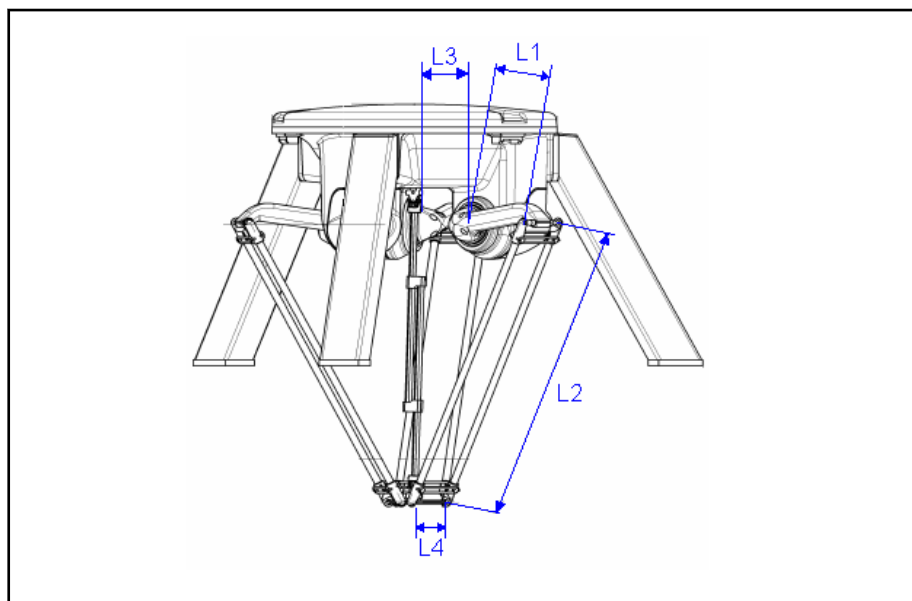
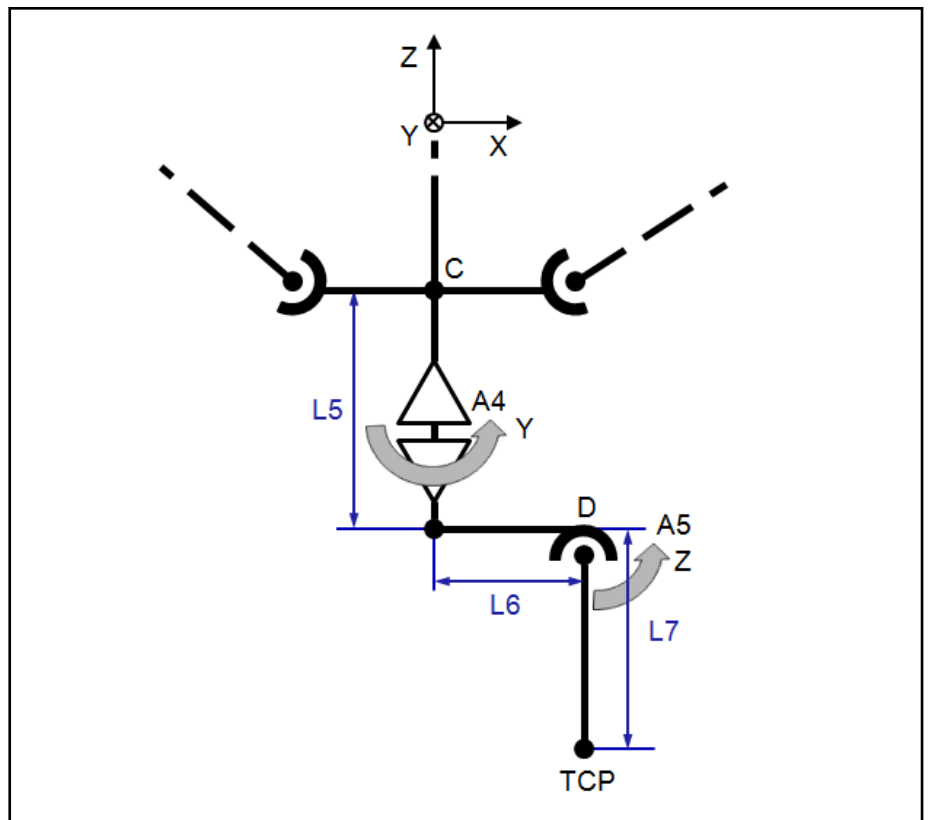
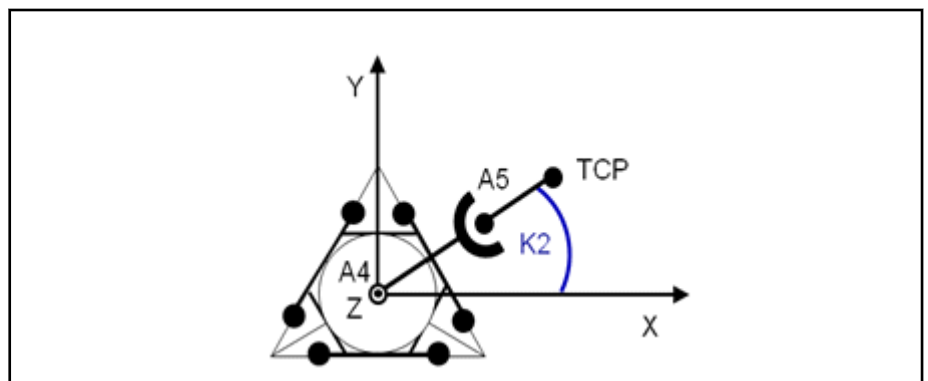

Fig. 4-28: Schematic view of 5-axis delta without TCP extension
Fig. 4-32: Arrangement of the extension and fifth axis zero position
Fig. 4-33: Fourth axis zero position
- fig. 4-28 "Schematic view of 5-axis delta without TCP extension" on page 137, fig. 4-32 "Arrangement of the extension and fifth axis zero position" on page 139 and fig. 4-33 "Fourth axis zero position" on page 139 show a delta robot at zero position of all axes, i.e. if the robot is in the position shown in the figures, the machine coordinates (MCS) for all of the axes have to be zero.
- L_5 is the vertical length in Z-direction from the center of the inner circle of the equilateral triangle on the tool plate to the bottom reference point of axis 5. L_6 is equivalent to the horizontal length from the center to the reference point fig. 4-32 "Arrangement of the extension and fifth axis zero position" on page 139
- L_7 is the arm length from the rotation center of the fifth axis to the end point (see fig. 4-32 "Arrangement of the extension and fifth axis zero position" on page 139)